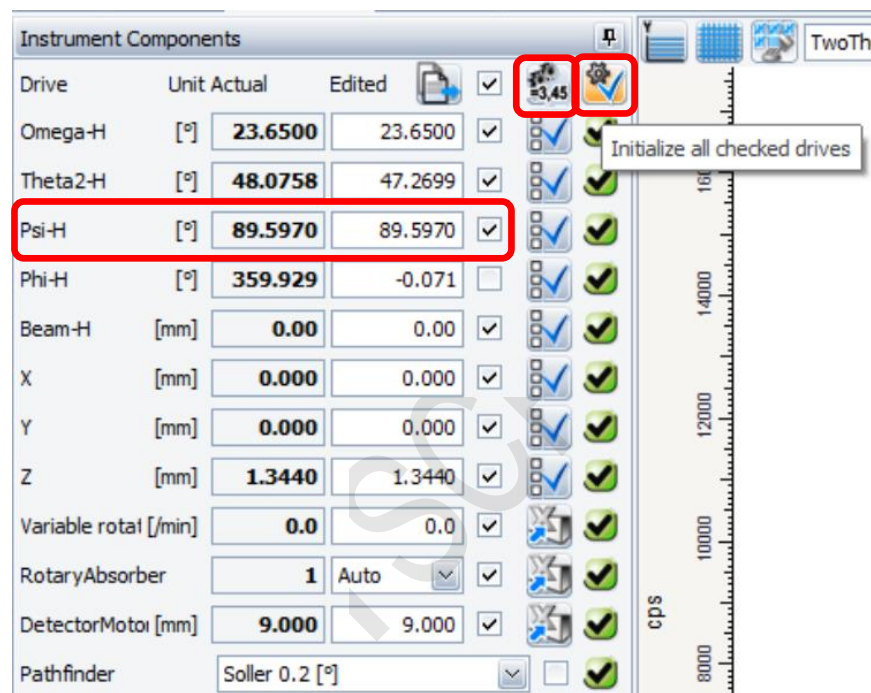
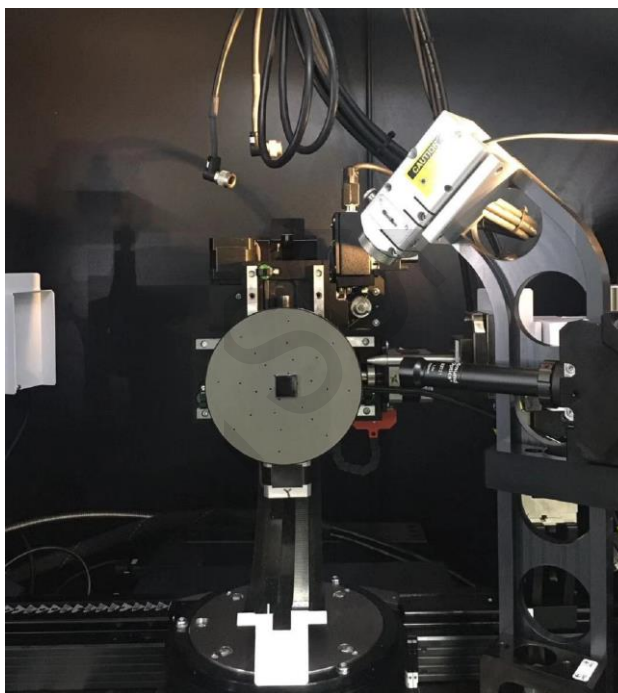

Fig 6-5 Initialization of drives
Fig 6-6 Sample mount to the vacuum sample stage
6.5.4 On Diffrac.Commander tab, check all drives and click “Initialize” to initialize all checked drives in Fig 6-5 (“!” alerts remind of initialization when launch the machine and disappear when the machine is ready for use) .
Set $\Psi = 90^\circ$, check it and click  to gently place the sample stage at horizon. The sample is mounted to the center of vacuum sample stage and set aside for 30 s (allowing the sample fixed by vacuum on the stage). Then set $\Psi = 0^\circ$, check it and click  to gently raise the stage to verticle (Fig 6-5 and Fig 6-6).